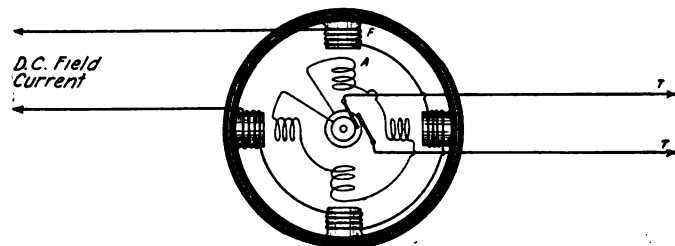
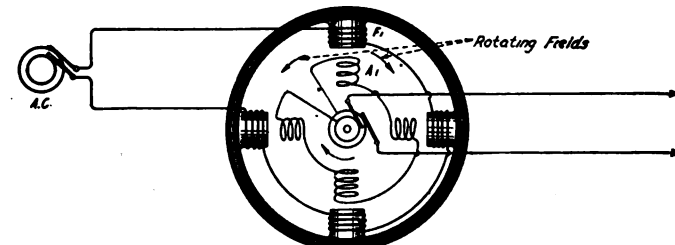

Figure 193
Figure 194
Figure 193 represents a simple alternator, with four field poles F, fed by DC current from an external source. The armature coils are indicated at A, the collector rings at N and the external circuit at T. The speed of armature, for purposes of illustration, is assumed to be 1800 revolutions per minute.
Figure 194 is a similar diagram, but in this case the field windings are excited by alternating current of the frequency that would be obtained in figure 193, with DC excitation current, and an armature speed of 1800 R.P.M.
The terminals of this armature T are assumed to be connected to the terminals of the field coils in figure 194. Current of a frequency of 60 cycles will flow in the field circuit and the resulting magnetic field can be thought of as two equal magnetic fields rotating in opposite directions.
tion at the same velocity. There will, therefore, flow in the armature of figure 194 a current of double frequency. This current can be fed to the field windings of another generator and the frequency again doubled, but as will be shown this multiplication can take place within the same machine.
(1) In figure 194 the armature A' is rotated at synchronous speed. If it revolves out of synchronism with the two magnetic components of the stationary field coils, it can be shown that two frequencies will be generated in the armature; that is, if the frequency of the field current is N_1 , and the speed of armature is such that if the field windings were excited by DC current, its frequency would be of different value N_2 , then the frequencies of the two resulting currents in the armature circuit will be $N_1 + N_2$ and $N_1 - N_2$.
(2) In the Goldschmidt reflector alternator, owing to the fact that the generation of radio frequency currents is involved, tuned circuits must be provided in order to reduce the impedance of the armature and field circuits for several frequencies. The phenomenon of rotating fields is employed as in the above illustration and the armature is driven at such speeds as will permit the desired multiplication of frequencies to take place.